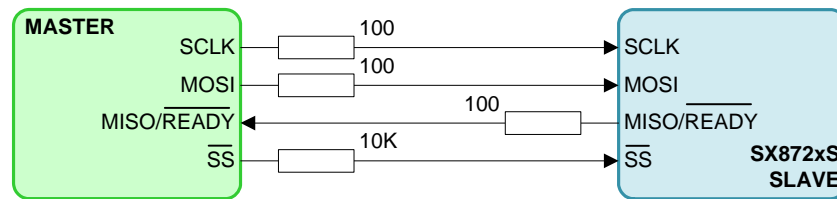

Figure 31. Resistors to improve noise immunity between master and slave
- Terminate SPI lines at the device using termination resistors as shown in Figure 31.